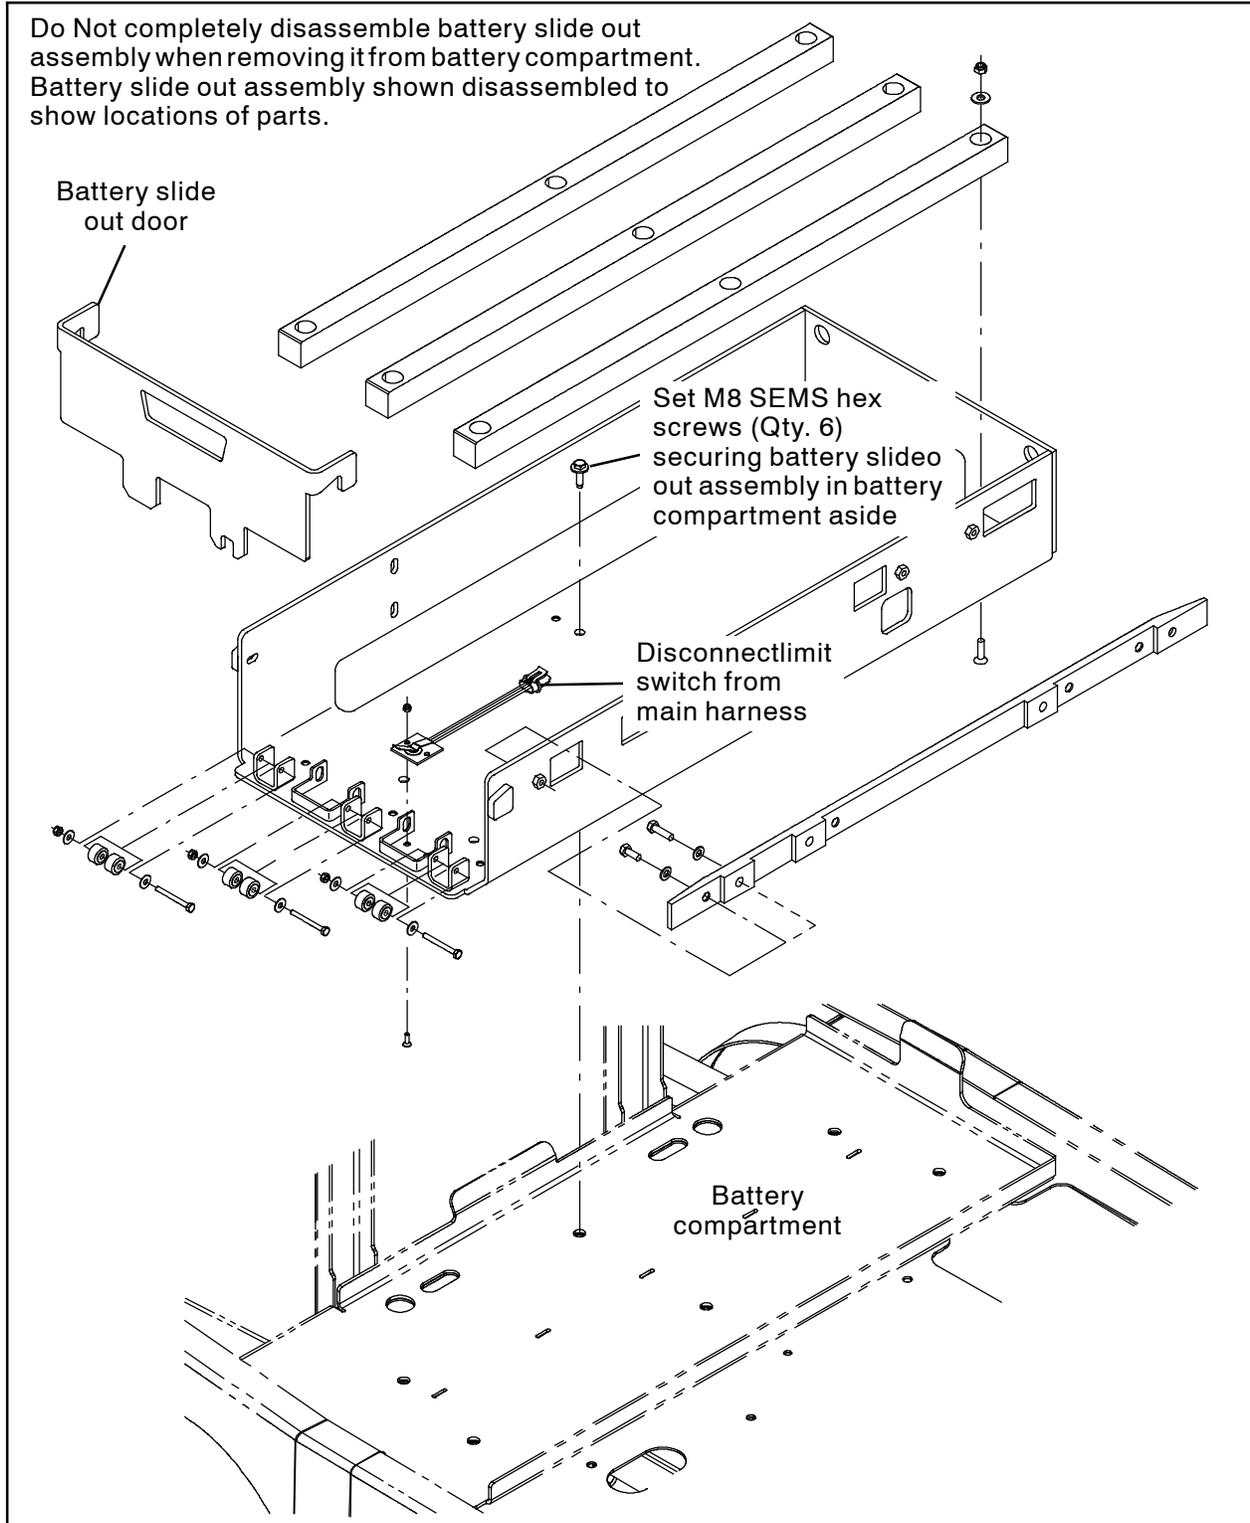

FIG. 1
1. Remove the battery from the machine. Set the battery slide out door aside. (Fig. 1)
**only:** Remove the slide out battery assembly from the machine. Set slide out assembly and all hardware aside. (Fig. 1)
- Machines with slide out battery option only:** Reinstall the slide out battery assembly into the battery compartment. (Fig. 1)